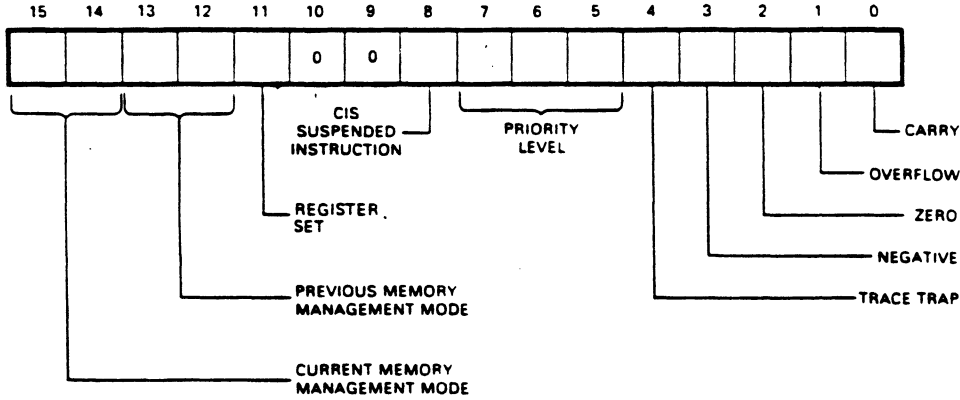

FIGURE 3-17 PROCESSOR STATUS WORD REGISTER
The Processor Status Word (PS), at location 17 777 776, contains information on the status of the processor. The PSW is initialized at power up (depends on EE PROM CONFIGURATION options) and is cleared at console start. The RESET instruction does not affect the PS. Figure 3-17 illustrates the register and Table 3-11 contains the bit descriptions.